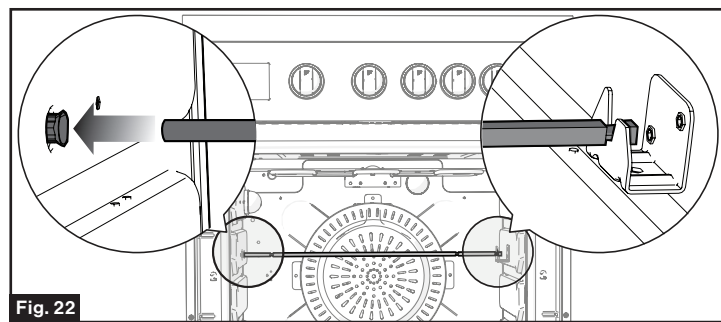

Fig. 22
2. Insert the rotisserie into the hole on the left side of oven, and set the right side with the notch in the rotisserie skewer into the bracket. (Fig 22)